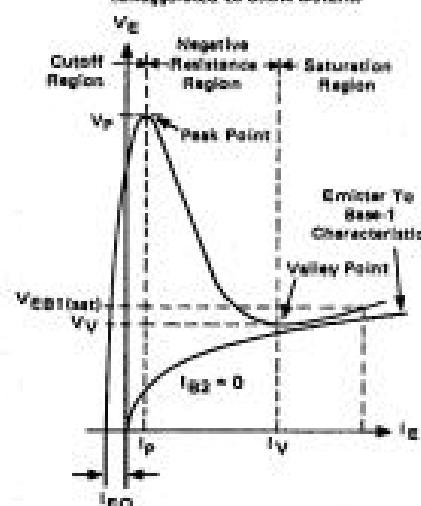

FIGURE 3 –  $V_{OB1}$  TEST CIRCUIT
3. Base-One Peak Pulse Voltage is measured in circuit of Figure 3. This specification is used to ensure minimum pulse amplitude for applications in SCR firing circuits and other types of pulse circuits.